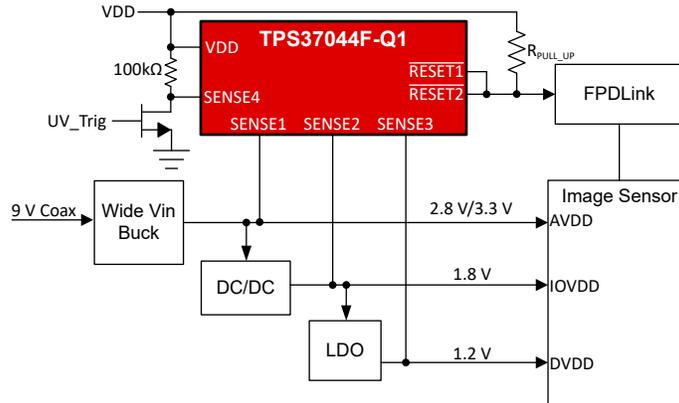

图 9-4. TPS37044F-Q1 Quad-Channel Monitoring With Manual Self-Test Option for Functional Safety
图 9-4 displays a self-test scheme where a manual self-test function can be implemented. Any SENSEx pin can be reserved and used to trigger a fault to be observed at the output, thus pre-checking the TPS3704-Q1 for fault detection. Because the TPS3704-Q1 is functional safety compliant, it helps elevate applications like the automotive ADAS camera achieve ISO 26262 requirements and automotive safety integrity levels. This example uses a TPS37044F-Q1, configured for separate undervoltage and overvoltage (UV/OV) outputs where the SENSE4 thresholds are set at 5.5 V for OV and 2 V for UV.
图 9-4 shows a self-test scheme where a manual self-test function can be implemented. SENSE4 has an overvoltage (OV) threshold that is set at 5.5 V and the undervoltage (UV) threshold set at 2 V. SENSE4 can be connected via a 100-k Ω resistor to VDD. The self-test setup gives the added benefit of a built-in overvoltage detector for the rail powering the TPS37044F-Q1. From a functional safety perspective, a voltage supervisor cannot be considered reliable if the supervisor is operating outside its recommended operated limits.